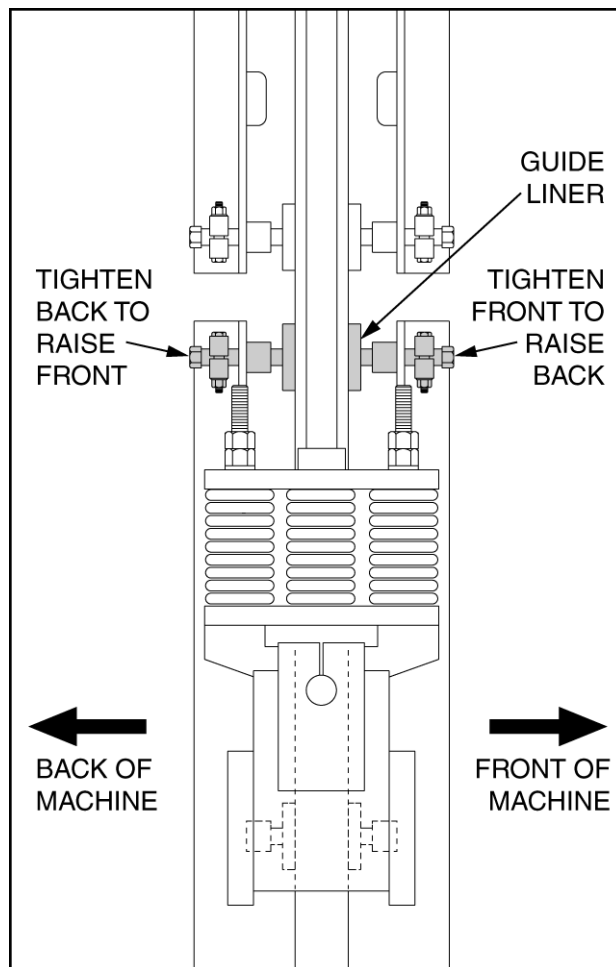

Figure 5.20 PALLET RECEIVER FRAME ADJUSTMENT
- 5.5.13 Make adjustments on right hand side by backing one guide liner away from slide shaft and tightening the other against the slide shaft. To raise the front, loosen the front and tighten the back. To raise the back, loose the back and tighten the front. See figure 5.20 below.